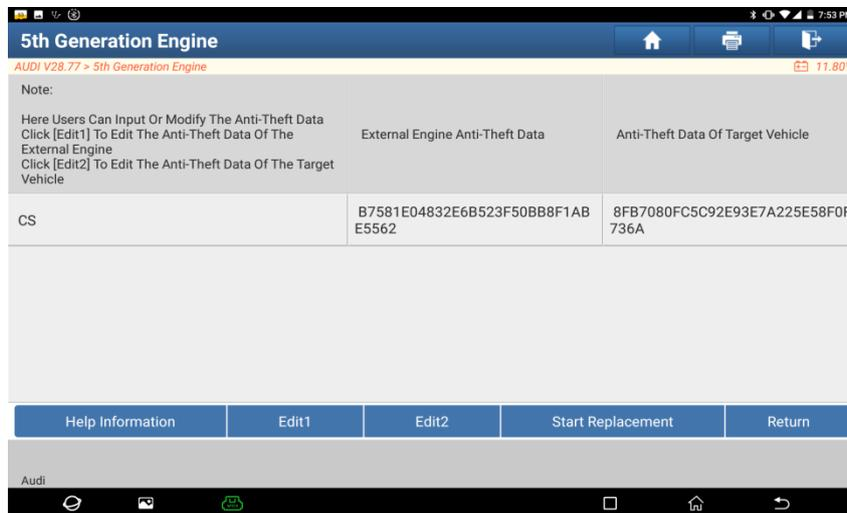

Figure 25
3.2.2.2 Click [OK], the device will display the Anti-Theft data of two ECUs, and you'd better take photos and save the two data, as shown in Figure 25.